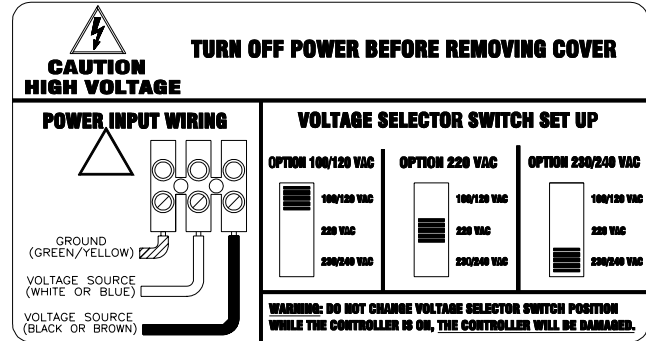

Figure 5: Modular AC power supply compartment connections
4. Attach the power wires to the modular snap-in connector in the power supply compartment, as shown in the diagram on the power supply access cover (see Figure 5).